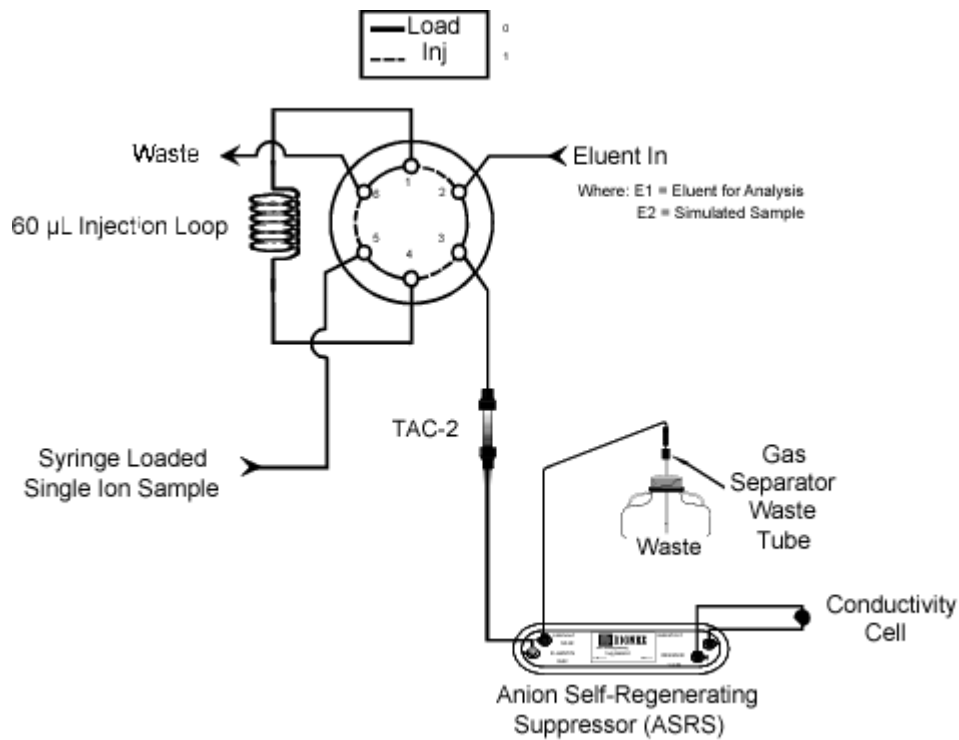

Figure 5
- C. Set up the Ion Chromatograph, as shown in Figure 5, and equilibrate the concentrator column with eluent at the concentration flow rate needed to achieve a stable baseline.